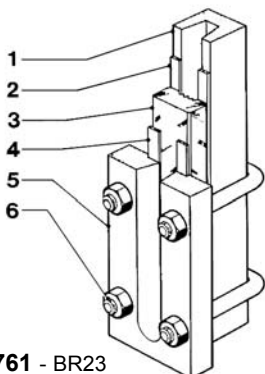
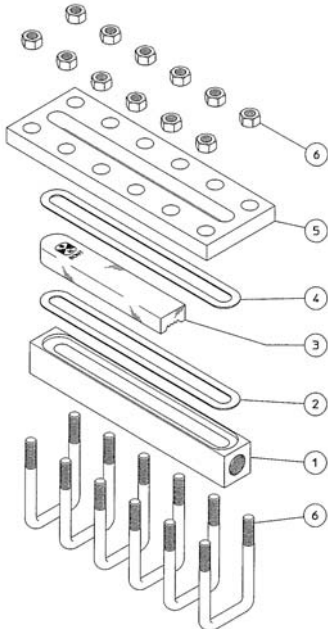

Fig. 761 - BR23
Fig. 4 - Reflex level gauge typical assembly Dwg.
1. Refer to proper level gauge type to identify items (Table 4 and assembling Dwg. Fig. 4 and Fig. 761, 762, 763, 819)
3. Depending on gauge type, couple centre piece (1) with "U" bolts (6), or "O" bolts (7) or standard bolts (11). "O" bolts (7) must be inserted around centre piece from one end, then slid to the right